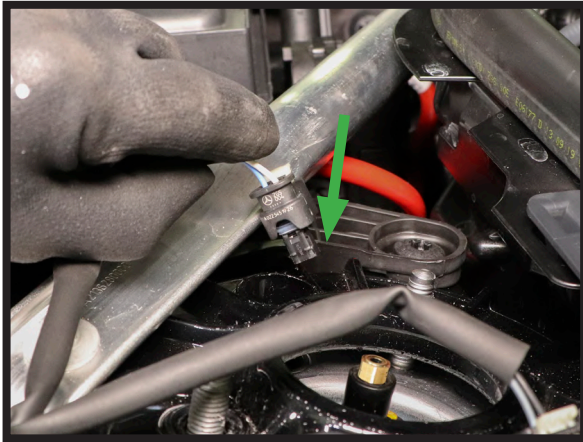

FIGURE 33
8. RECONNECT THE TWO (2) TOP MOUNT ELECTRICAL CONNECTIONS. (FIGURES 33, 34)